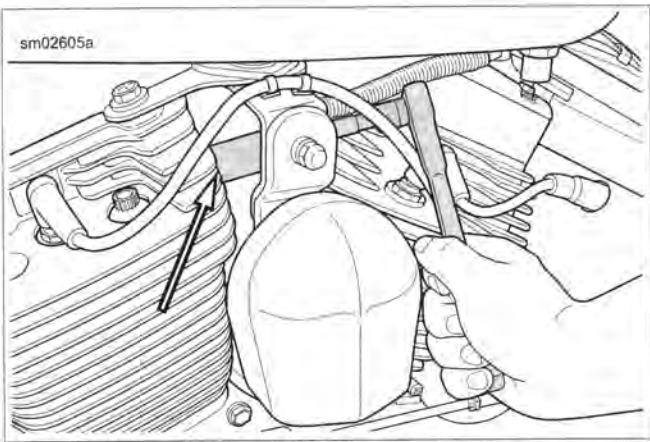

Figure 4-17. Engine Temperature Sensor Removal
6. See Figure 4-17. Loosen ET sensor using socket. When sensor starts to turn easily, finish removing by hand.